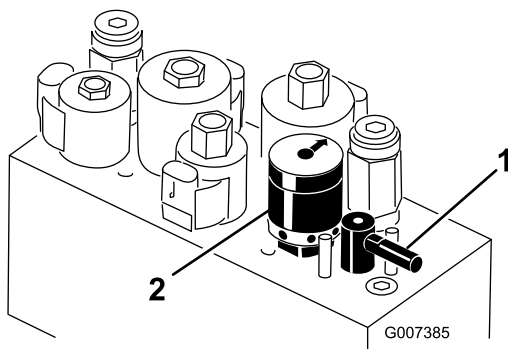

Figure 57
5. Rotate the Backlap Lever to the "R" position (Figure 57).
6. Rotate the Reel Speed Control to setting 1 (Figure 57).